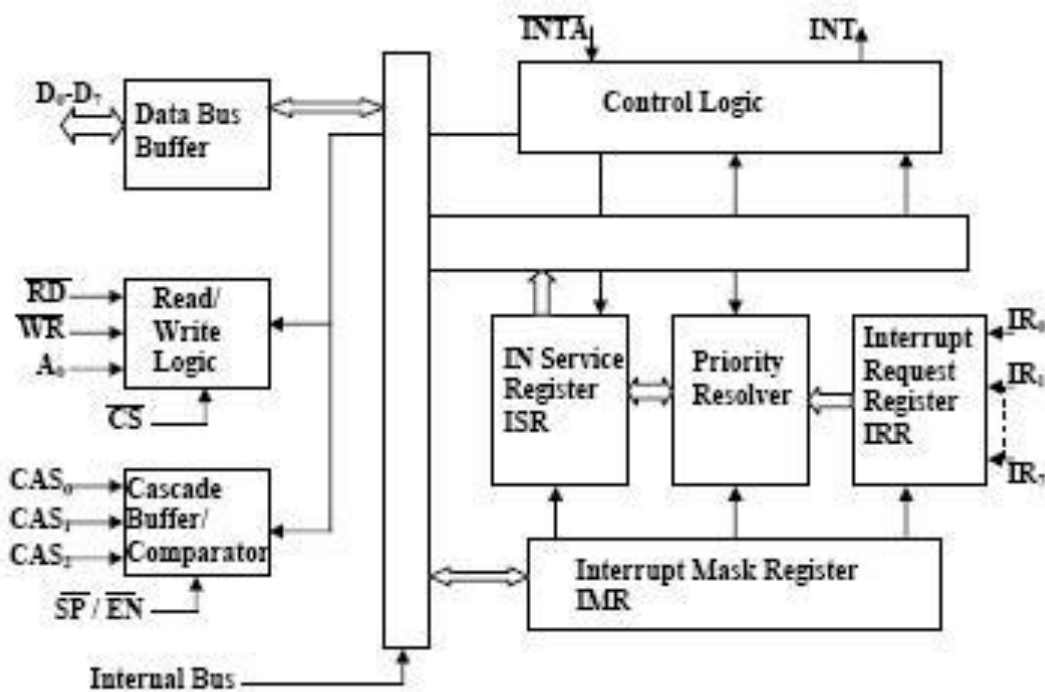

Fig:1 8259A Block Diagram
- The architectural block diagram of 8259A is shown in fig1. The functional explication of each block is given in the following text in brief.
- **Interrupt Request Register (RR)**: The interrupts at IRQ input lines are handled by Interrupt Request internally. IRR stores all the interrupt request in it in order to serve them one by one on the priority basis.